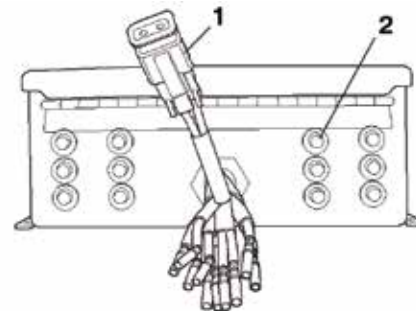

Figure 4-56. Electric Heat Control Box Bottom and Breakers
The bottom of the control box contains the system element breakers, and the six (6) main outputs for the screed heating elements (**Figure 4-56**). Since the heating elements are powered by 220VAC to 240VAC, each element has two breakers (**Figure 4-56,2**). There is one breaker for each leg of each element. Also shown is one of the two pin plugs that supplies power to the screed elements.
NOTE: Any element lead can be plugged into any supply plug (**Figure 4-56,1**) under the heating control/distribution box. All six plugs are equally rated.